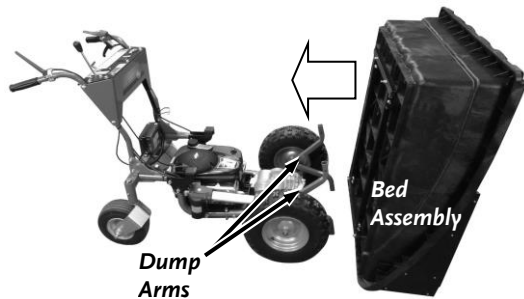

Figure 10
1. Place the Bed Assembly at the front of the machine with the Tailgate end resting on the ground (**Figure 10**).